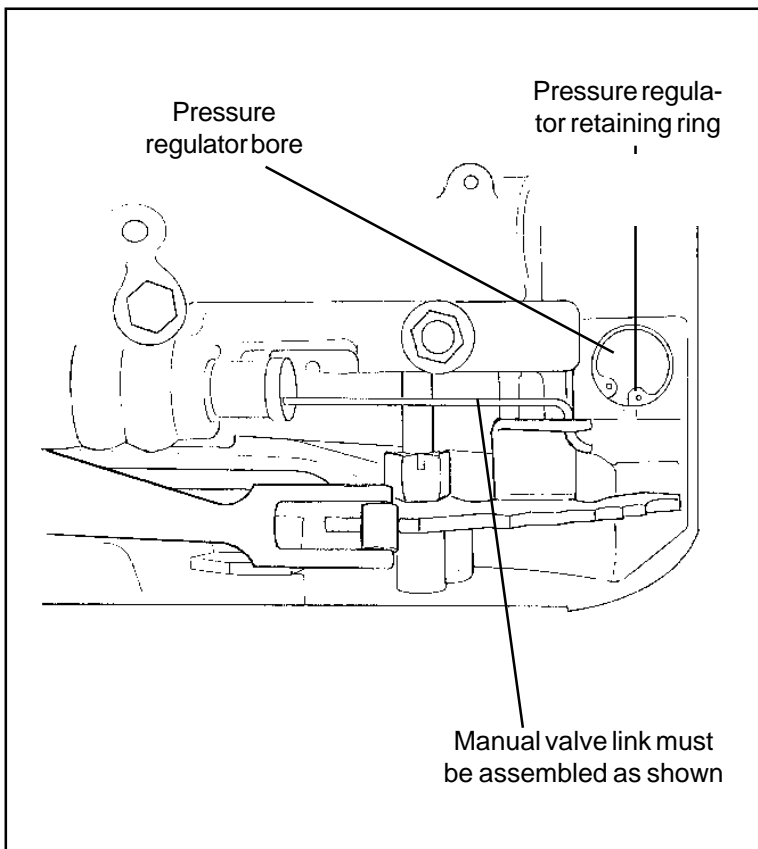
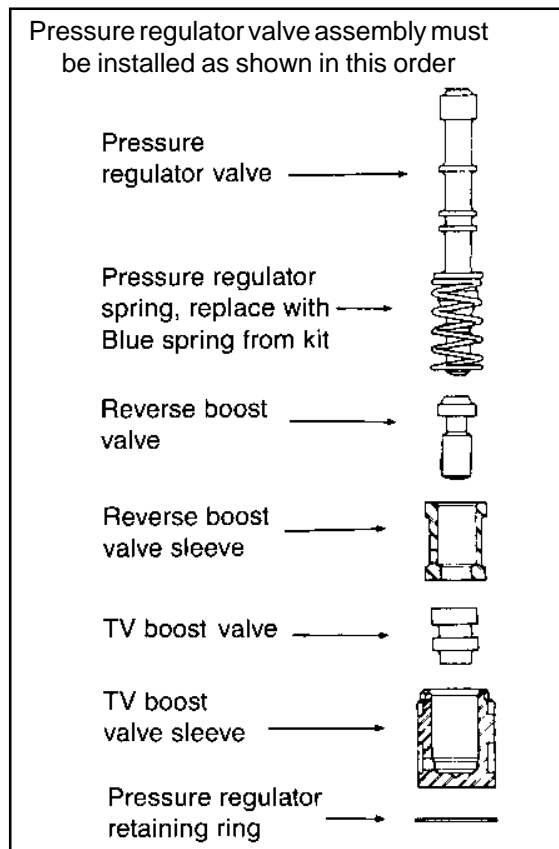

Figure 6
Figure 7
Remove the snap ring at the end of the pressure regulator bore in the oil pump assembly (**See Fig. 6.**) Use a screwdriver to hold the pressure regulator assembly while removing the retaining ring. If the sleeves stick in the bore, lightly rap the sleeve with a small rod and a mallet (piece of 2X4.) Remove two sleeves with valves and the pressure regulator spring. The pressure regulator may fall out but it does not need to be removed. Reassemble the pressure regulator assembly using the **BLUE** spring from the kit (**See Fig. 7.**) Use the new retaining ring from the kit. Make sure the retaining ring is firmly seated in its groove when assembled.
**STEP 19. Valve body installation.** Make sure check balls are in proper locations. Position the manual valve so the link rod can be engaged (See Fig. 6.) The link rod must be placed into the hole of the manual rod at a right angle, then rotated to allow the valve to enter the valve body bore. Do not force the valve at any time. When the valve is fully engaged, align the valve body and case holes then install one bolt finger tight to hold valve
4: Regulator valve retaining ring fully seated in groove. (**See Fig. 6.**)